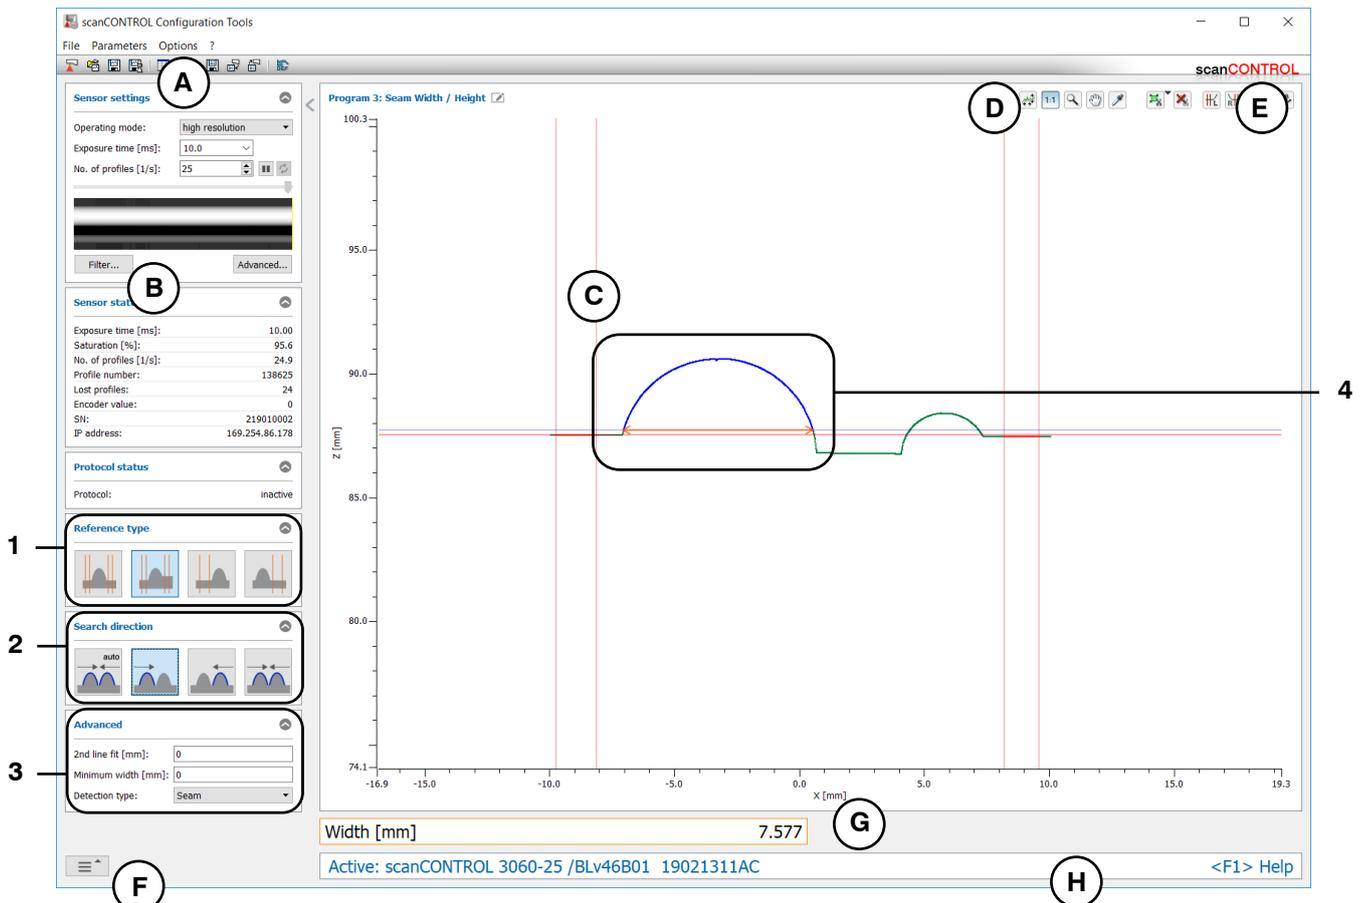

Fig. 4.29: "Seam Width/Height" measuring program
- Define the type of heightening (see Fig. 4.29 and Chapter 3.13.1):